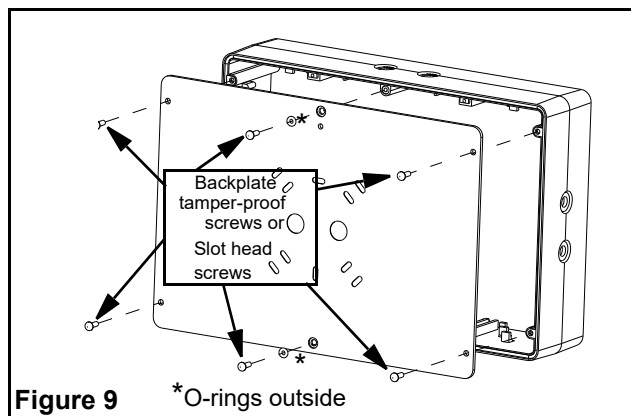

Figure 9 *O-rings outside
Route the double insulated data cables through the liquid tight fitting previously installed on frame and strip 1 inch(25mm) of the double insulation. The two cables are identical and both contain 2 wires of different colors: “color A” and “color B”. Gather the “color A” wire from each cable, and connect them to the same pole on the terminal block. Gather the “color B” wire from each cable, and connect them to the other pole on the terminal block. The result must be 2 wires of the same color in each pole on the terminal block. Leave a minimum of one inch(25mm) between the live voltage cabling and the unsheathed low voltage data cabling (Refer to fig. 9).
2. Remove backplate by unscrewing the six tamper-proof screws holding the backplate to the frame (see fig. 9).